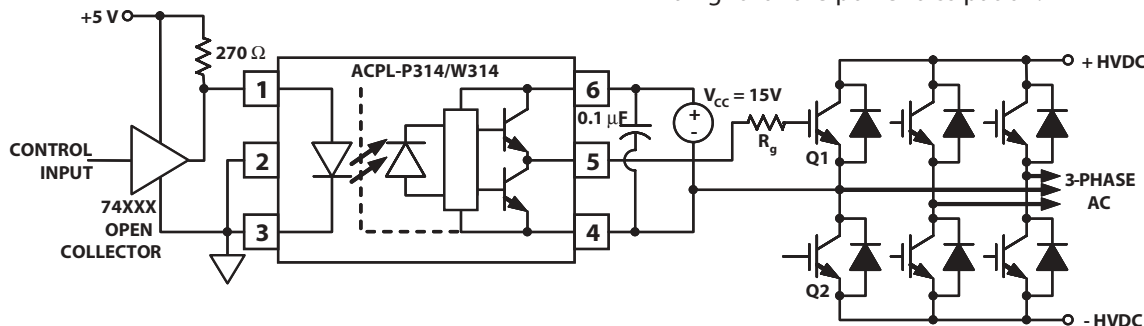
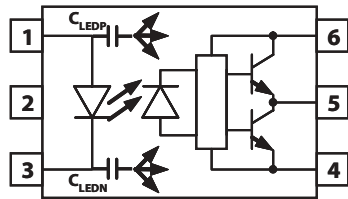
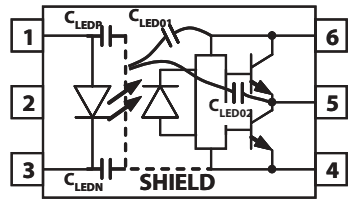
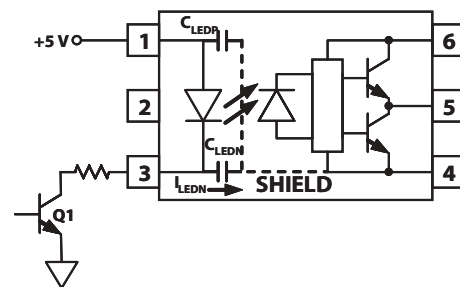

Figure 19. Recommended LED Drive and Application Circuit for ACPL-P314/W314
Figure 21. Optocoupler Input to Output Capacitance Model for Unshielded Optocouplers.
Figure 22. Optocoupler Input to Output Capacitance Model for Shielded Optocouplers.
Figure 24. Not Recommended Open Collector Drive Circuit.
To keep the IGBT firmly off, the ACPL-P314/W314 has a very low maximum V_{OL} specification of 1.0 V. Minimizing R_g and the lead inductance from the ACPL-P314/W314 to the IGBT gate and emitter (possibly by mounting the ACPL-P314/W314 on a small PC board directly above the IGBT) can eliminate the need for negative IGBT gate drive in many applications as shown in Figure 19. Care should be taken with such a PC board design to avoid routing the IGBT collector or emitter traces close to the ACPL-P314/W314 input as this can result in unwanted coupling of transient signals into the input of ACPL-P314/W314 and degrade performance. (If the IGBT drain must be routed near the ACPL-P314/W314 input, then the LED should be reverse biased when in the off state, to prevent the transient signals coupled from the IGBT drain from turning on the ACPL-P314/W314.
Step 1: Calculate R_g minimum from the I_{OL} peak specification. The IGBT and R_g in Figure 19 can be analyzed as a simple RC circuit with a voltage supplied by the ACPL-P314/W314.
where $K_{ICC} \cdot Q_g \cdot f$ is the increase in I_{CC} due to switching and K_{ICC} is a constant of 0.001 mA/(nC*kHz). For the circuit in Figure 19 with I_F (worst case) = 10 mA, R_g = 32 Ω , Max Duty Cycle = 80%, Q_g = 100 nC, f = 20 kHz and T_{AMAX} = 85°C:
Without a detector shield, the dominant cause of optocoupler CMR failure is capacitive coupling from the input side of the optocoupler, through the package, to the detector IC as shown in Figure 21. The ACPL-P314/W314 improves CMR performance by using a detector IC with an optically transparent Faraday shield, which diverts the capacitively coupled current away from the sensitive IC circuitry. However, this shield does not eliminate the capacitive coupling between the LED and optocoupler pins 5-8 as shown in Figure 22. This capacitive coupling causes perturbations in the LED current during common mode transients and becomes the major source of CMR failures for a shielded optocoupler. The main design objective of a high CMR LED drive circuit becomes keeping the LED in the proper state (on or off) during common mode transients. For example, the recommended application circuit (Figure 19), can achieve 10 kV/ μ s CMR while minimizing component complexity.
The open collector drive circuit, shown in Figure 24, can not keep the LED off during a $+dV_{CM}/dt$ transient, since all the current flowing through C_{LEDN} must be supplied by the LED, and it is not recommended for applications requiring ultra high CMR1 performance. The alternative drive circuit which like the recommended application circuit (Figure 19), does achieve ultra high CMR performance by shunting the LED in the off state.